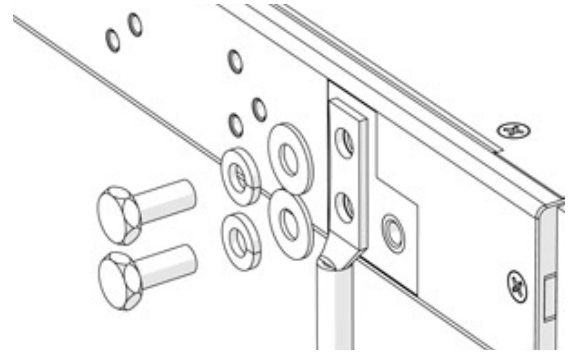

Figure 10. Chassis Ground
Step 1. Secure the ground cable to the chassis by tightening 1/4 in. hardware (see Figure 10).